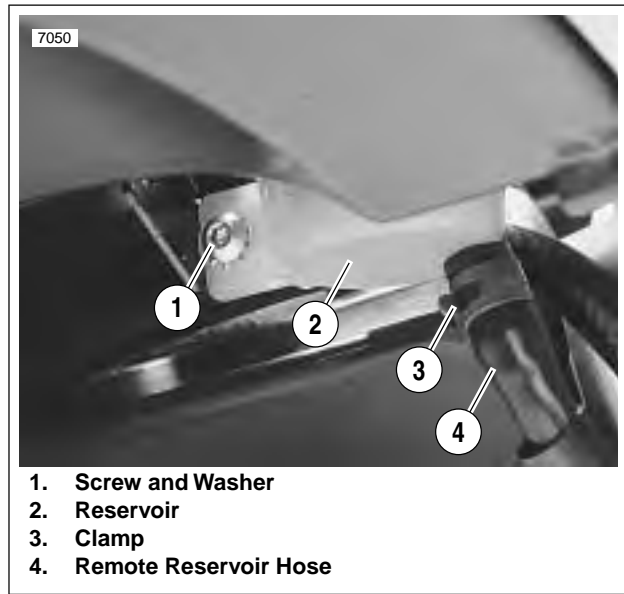

Figure 2-42. Remote Reservoir
7. See Figure 2-42. Detach remote reservoir.
1. See Figure 2-42. Connect remote reservoir.